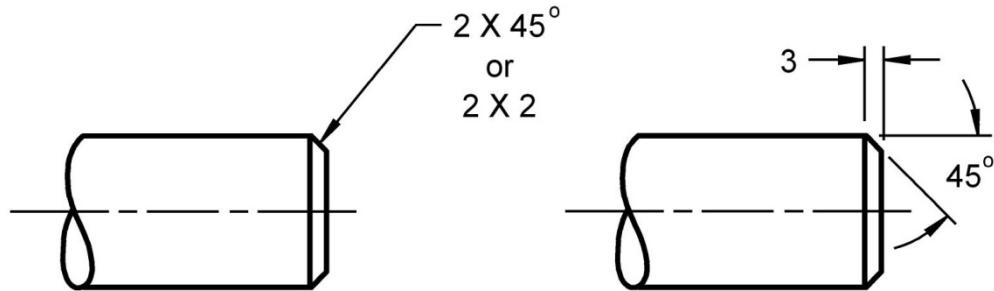

Figure 2-18: Chamfers.
- j) Chamfers are dimensioned by a linear dimension and an angle, or by two linear dimensions. A note may be used to specify 45 degree chamfers because the linear value applies in either direction (see Figure 2-18). Notice that there is a space between the 'X' symbol and the linear dimension. The space is inserted so that it is not confused with a repeated feature.